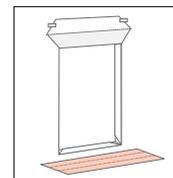

fig. 6
- Cut flexible flashing tape at least 12" longer than the width of the rough opening sill. **(fig. 6)**